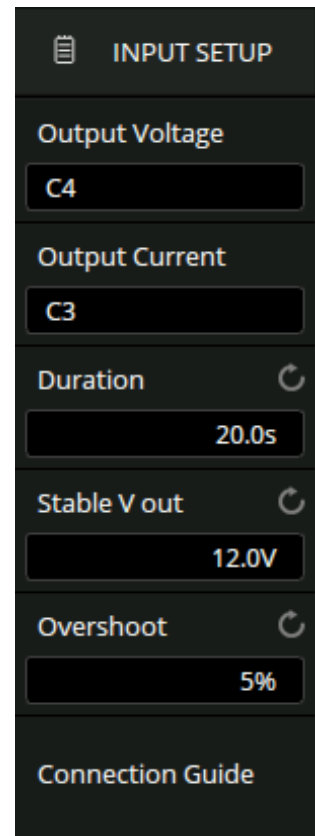

Figure 19.21 Input Setup Menu
1. Touch **Input Setup** to display the signal menu shown in figure 19.21.